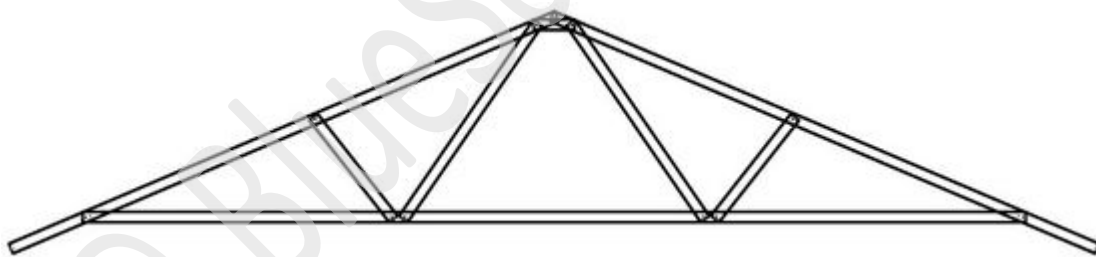

Figure 5.3 Standard 'A' Truss/ Dutch Gable Truss
**5.1) Standard A-Truss:** An A-framed truss supported at both ends by load bearing walls. It forms the main gable roof block. (Refer Fig. 5.3)